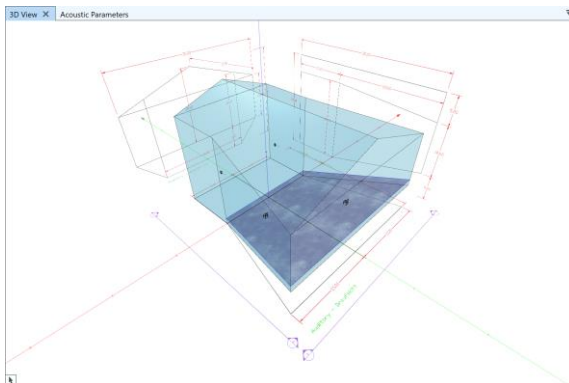

Figure 4.10 Central Wide Perspective.
- In CENTRAL WIDE mode, the central perspective and a wide viewing angle will be used. This typically corresponds to situations where the viewer is close to the building or inside the room (Figure 4.10).